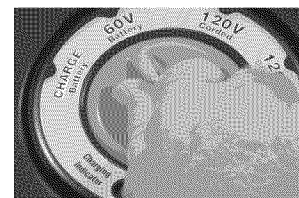

Figure 16 - Turn Dial
2. Turn the dial to the selection desired (see Figure 16).